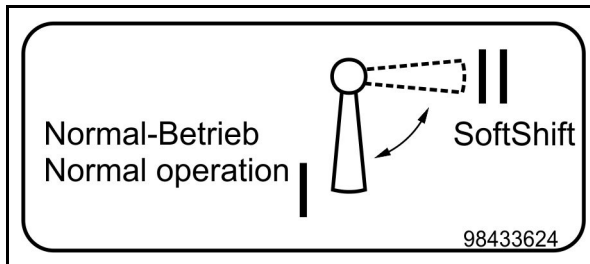

Fig. 496 Pump kit sign
- Move the ball valve (1) (**Fig. 496**) into the “SoftShift” (DAN) position in order to enable SoftShift function b).